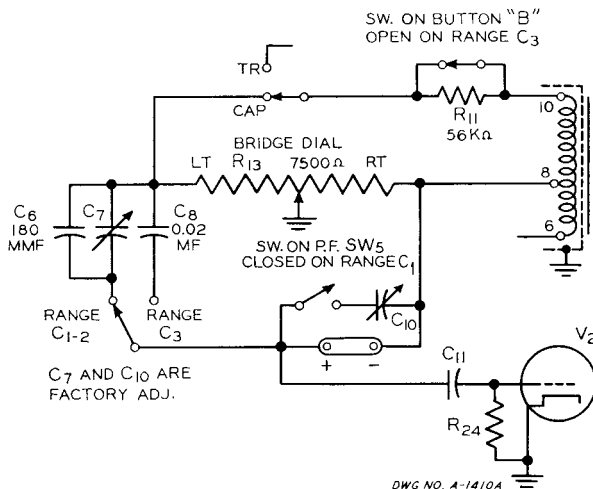
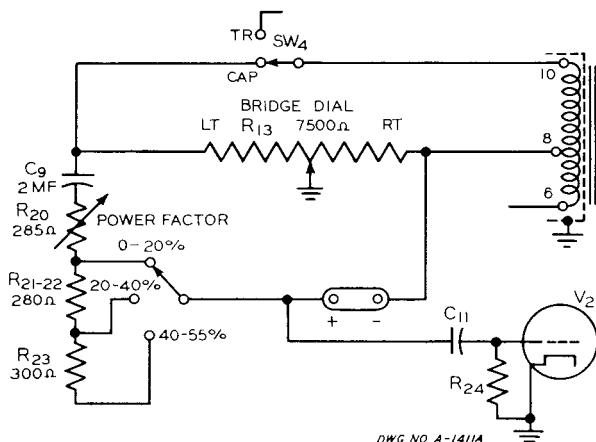
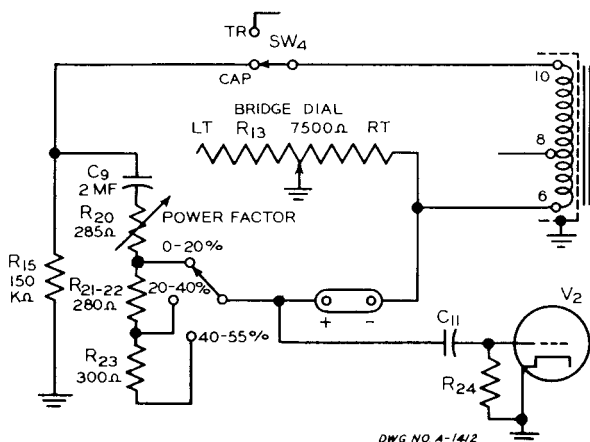

FIGURE 1
FIGURE 2
FIGURE 3
2.1 Measurements of capacitance from 1 mmf to 2000 mf are made on a 5-range line frequency capacitance bridge. Figure 1 shows a simplified circuit diagram of the bridge employed for the C_1 , C_2 , and C_3 ranges. Figure 2 shows the basic bridge circuit for the C_4 range and Figure 3 is the simplified circuit for the C_5 range. Since the bridge is balanced on all ranges by continuously varying the ratio arm, a highly accurate, linear-taper wirewound variable resistor is used for the main bridge element, R_{13} . These potentiometers are especially selected to assure accurate matching of the calibrated scales over their full length. The standard capacitors for the C_1 and C_2 ranges are silvered mica-capacitors paralleled by silvered ceramic trimmer capacitors which are factory adjusted to compensate for variations in the inherent wiring capacitance. The standard on the C_3 range is a matched pair of molded Black Beauty